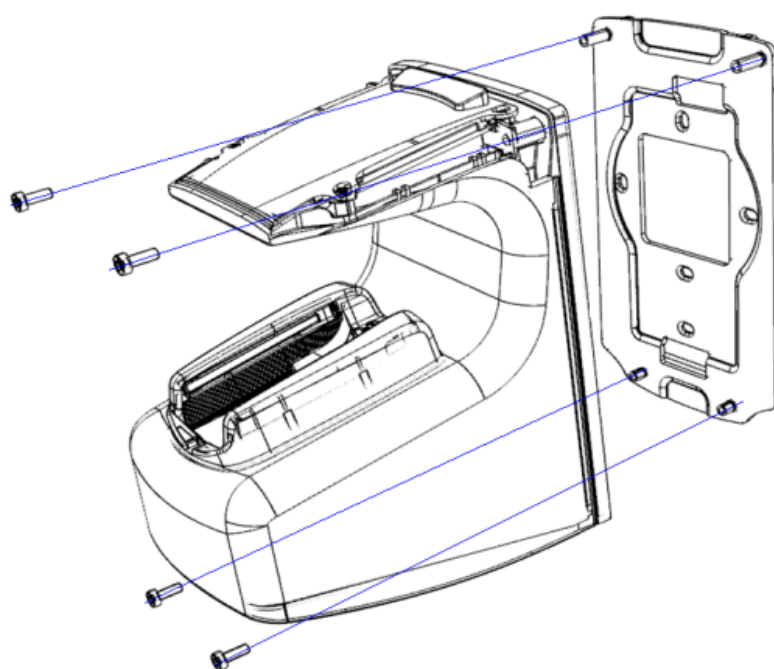

Figure 9: Terminal's Body fixation
8. Fix Terminal's body with four (4) M3x8 screws (Figure 9).